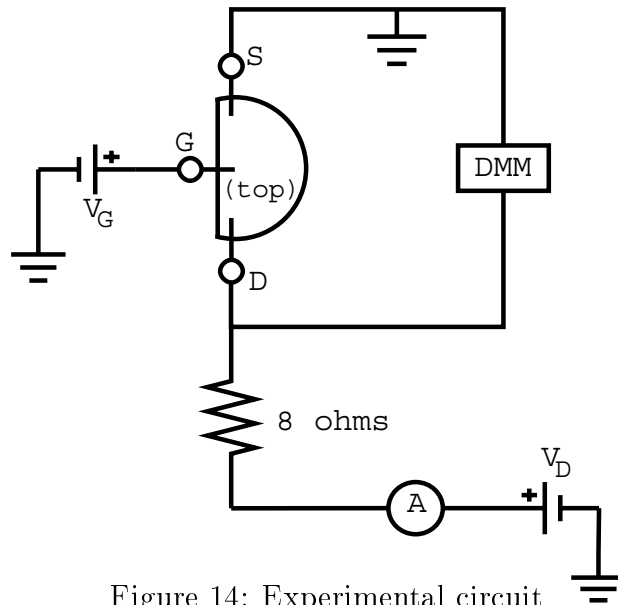

Figure 14: Experimental circuit
1. Connect the circuit shown in Figure 14.